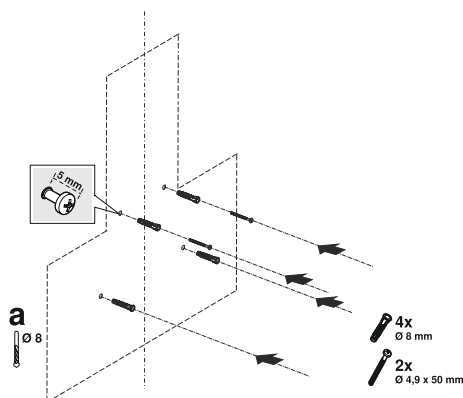

Fig. 13
1. Draw a mid location line from the ceiling perpendicular to the lower edge of the hood (Fig. 13).
2. To drill the suspension holes of the flue, place the mounting template on the surface where the appliance will be mounted on and mark the mounting holes (Fig. 13/b).
3. Drill the suspension holes with Ø8mm drill and place the dowels (Fig. 13/b).
2 piece 4,9x950 suspension screw with a clearance of 5 mm between the screw head and the wall (Fig. 13/b).